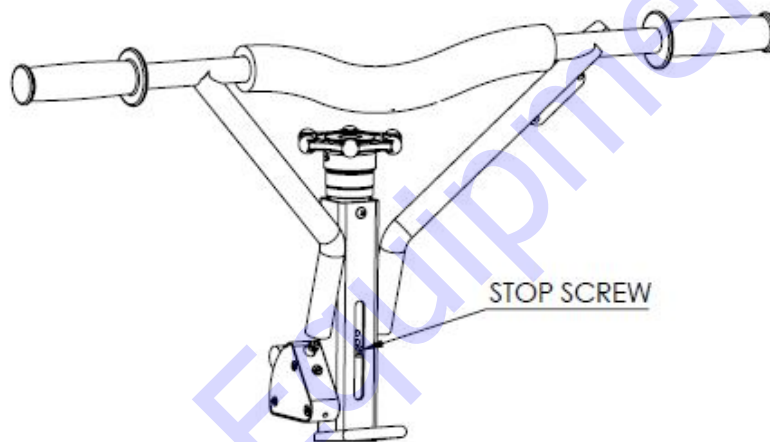

Fig 19
2. Once the blades are flat, keep turning the knob counter clockwise until the stop screw bottoms out in the slot. (see Fig 19)